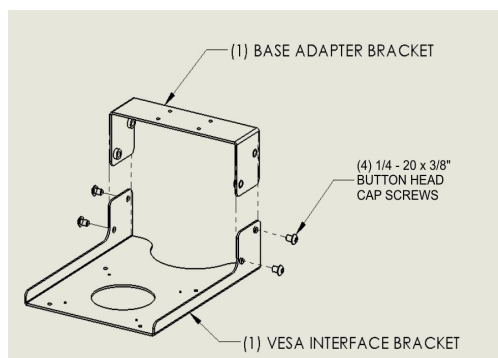

Figure 2
- Assemble Brackets:** Attach base adapter bracket to VESA interface bracket using four 1/4-20 x 3/8" Phillips pan head screws. (see Figure 2).